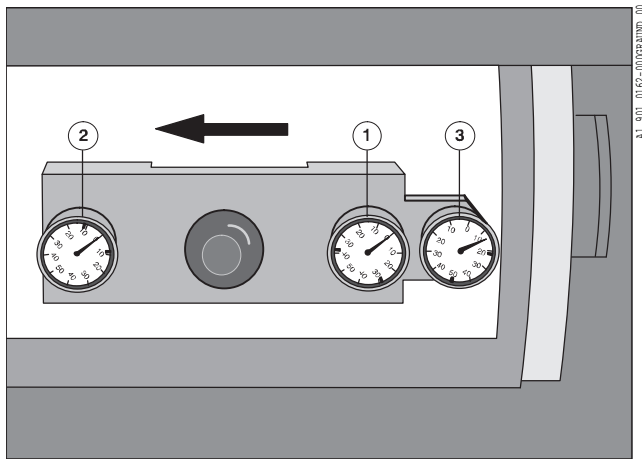

Fig. 30 Measuring the packing thickness
5. Move the measuring device to the center of the blanket (Fig. 30, arrow). With the same pressure, the center (Fig. 30/1) and the left dial indicators (Fig. 30/2) still read zero.
6. The right dial indicator (Fig. 30/3) now indicates the difference in height between the blanket and bearer.